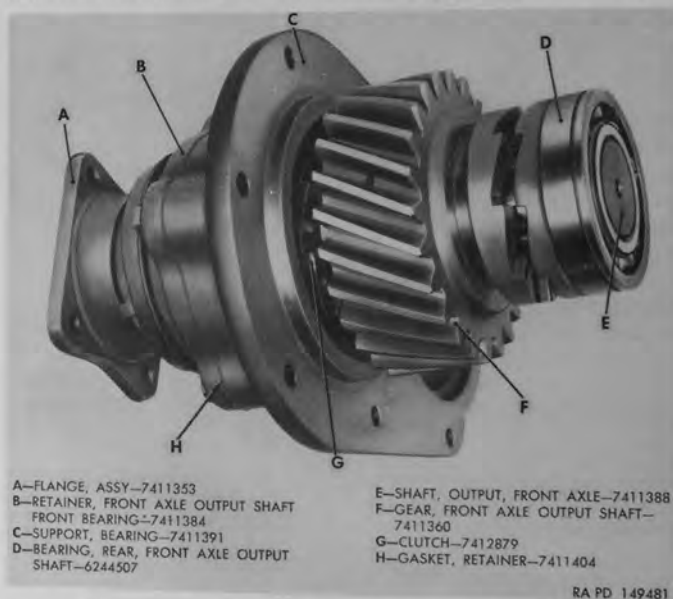

Figure 72. Front axle output shaft components assembled.
g. Install $\frac{7}{8}$ -14 nut (A) on shaft threads and tighten lightly. Final tightening is done after subassembly is installed in transfer case (par. 115). Front axle output shaft components appear as shown in figure 72 when properly assembled.